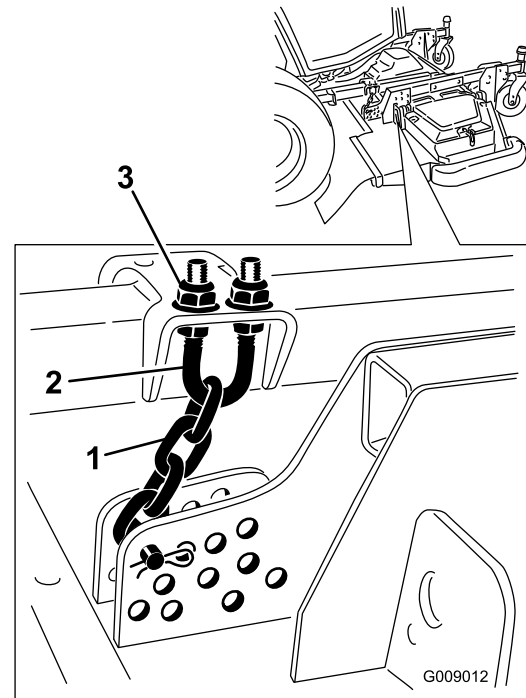

Figure 139
5. Loosen the jam nuts on the top or bottom of the height-of-cut chain U-bolt (Figure 139).